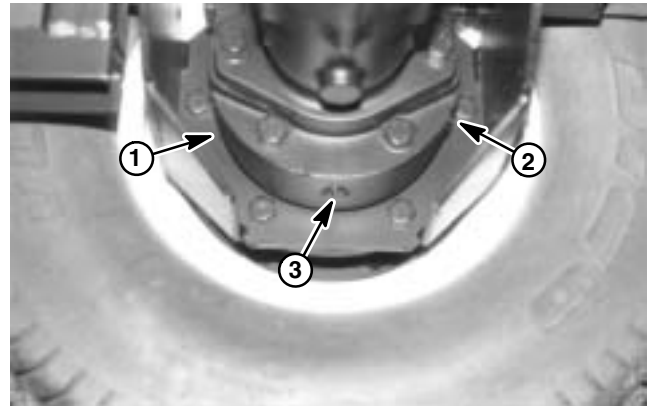

Figure 14
4. Secure wheel motor to planetary with two (2) cap screws and flat washers. Torque screws 60 ft-lb (81 N-m).
7. Make sure drain plug is installed in bottom of brake assembly (Fig. 14). Fill planetary wheel drive/brake assembly to proper level with SAE 85W-140 gear lube (see Operator's Manual). Capacity is approximately 16 oz. (.47 l) per wheel.